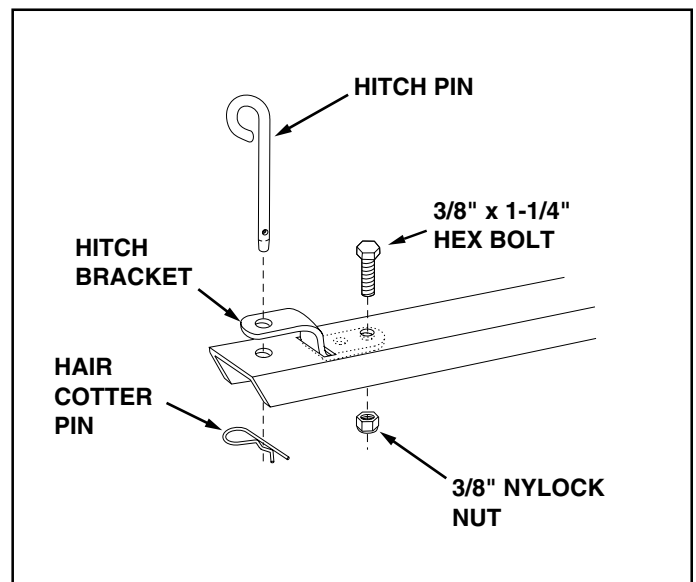

FIGURE 3
5. Assemble the end of the hitch bracket with two holes down through the slot at the front of the drawbar tongue. Fasten it to the tongue using the 3/8" x 1-1/4" hex bolt and 3/8" nylock nut. **Tighten**. See figure 3.
6. Assemble the hitch pin to the tongue and hitch bracket and secure it with the hair cotter pin. See figure 3.